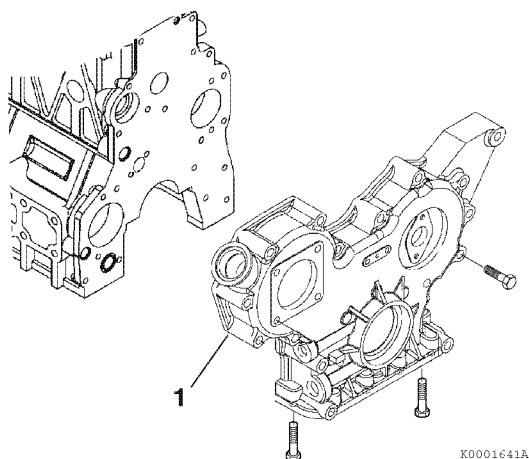

Figure 6-149
1. Apply a continuous bead of ThreeBond Liquid Gasket No. 1212, YANMAR Part No. 977770-01212 to the mounting area of the gear case cover (1, Figure 6-149). Be sure to circle the bolt holes.